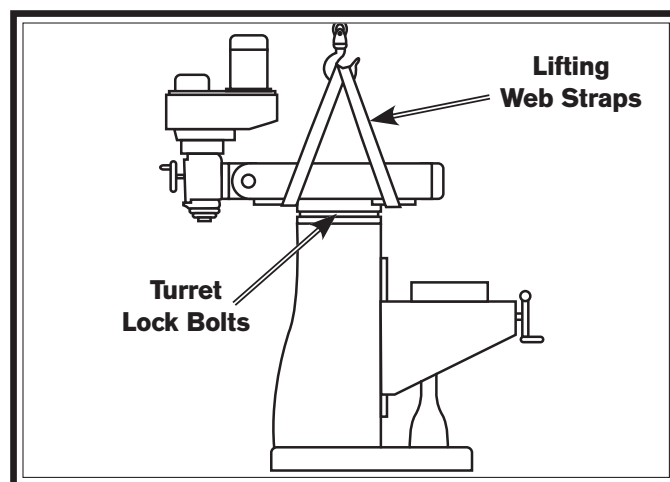

Figure 5. Lifting the mill using web straps.
1. Swing the ram around 180° from the position that it was shipped in, then rotate the head upright, as illustrated in **Figure 5** (refer to **Ram Movement** on **Page 33** and **Headstock Movement** on **Page 29** for detailed instructions).
2. Place the lifting web straps under the ram and connect them to the safety hook, as illustrated in **Figure 5**.